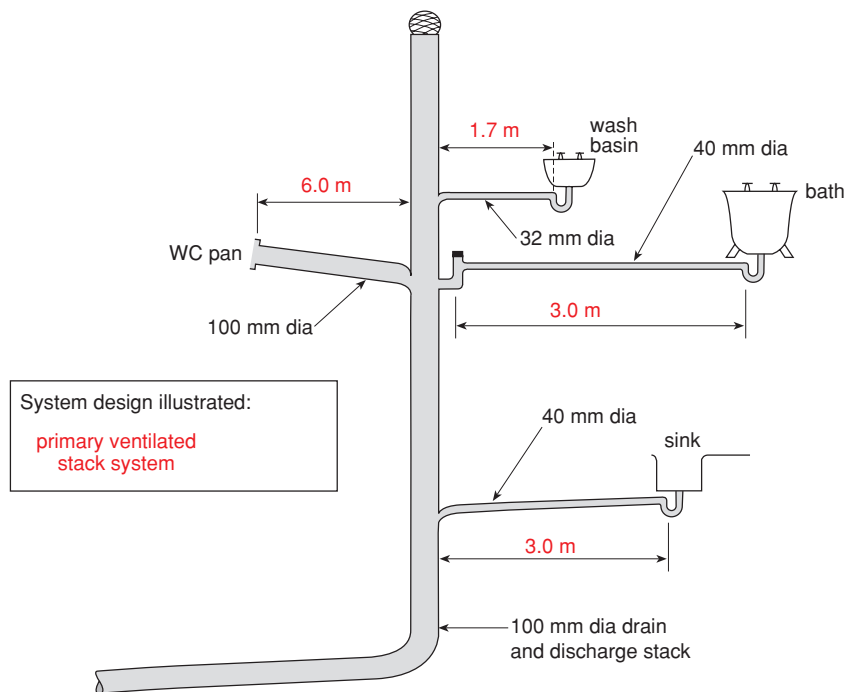

Figure 30
(74) Name the system of sanitary pipework shown in Figure 30, where no additional ventilation pipework is required. Also indicate in the space provided the maximum dimensions to be observed. (Page 313.)